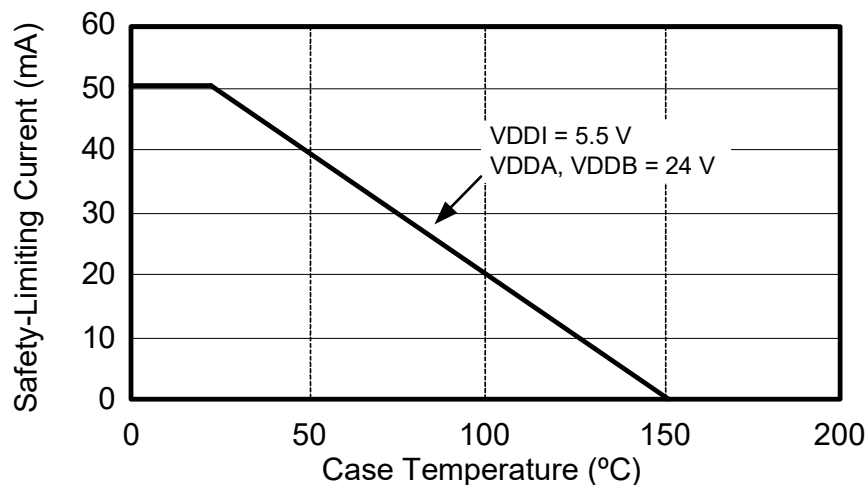

Figure 5. NB SOIC-16, Thermal Derating Curve, Dependence of Safety Limiting Values with Case Temperature per DIN EN 60747-5-2
1. Maximum value allowed in the event of a failure. Refer to the thermal derating curve in Figure 5.